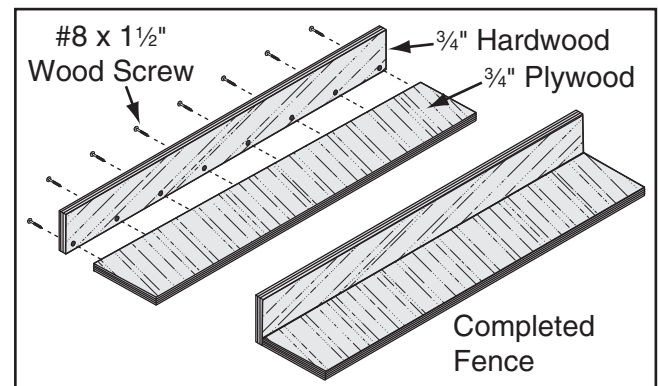

Figure 81. Location of pilot holes.
2. Pre-drill and countersink eight pilot holes $\frac{3}{8}$ " from bottom of 3" wide board, then secure boards together with eight #8 x $1\frac{1}{2}$ " wood screws, as shown in **Figure 81**.